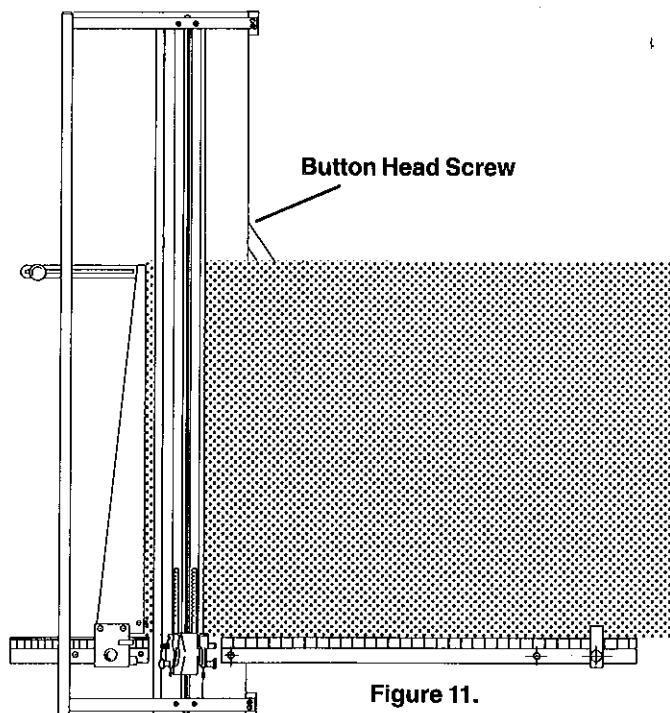

Figure 11.
5. Raise the **Clamp Handle** all the way up so it will remain off the base. The **Mat Guide** should be locked in position on its **Slide**. Place a full size mat (30x42) horizontally on the **Base** with the lower edge resting against the **Squaring Arm**. Note, it is not placed on *top* of the scale. Slide the mat to the left until it contacts the **Mat Guide**. Position the mat so it touches the **Mat Guide** evenly along the full length of the **Mat Guide**. You will note the mat is probably not in contact along the full length of the **Squaring Arm**. Slide the upper end of the **Angle Brace**, under the button head screw, until the mat is in full contact with both the **Mat Guide** and the **Squaring Arm**. (See Fig. 11).